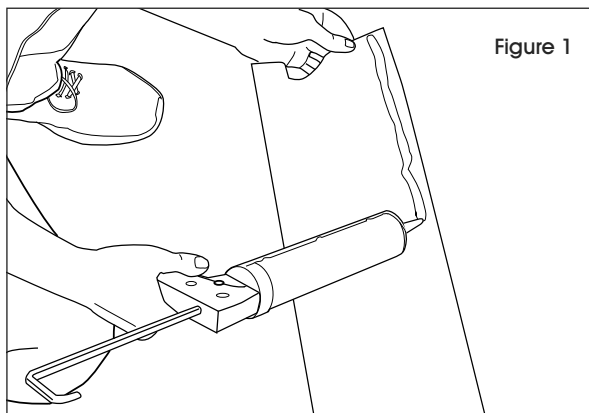

Figure 1
4. Apply the sealant to bottom of straight and corner sections. The sealant should be applied 1" in from the outer edges in a continuous line to ensure a complete seal. (See Figure 1)